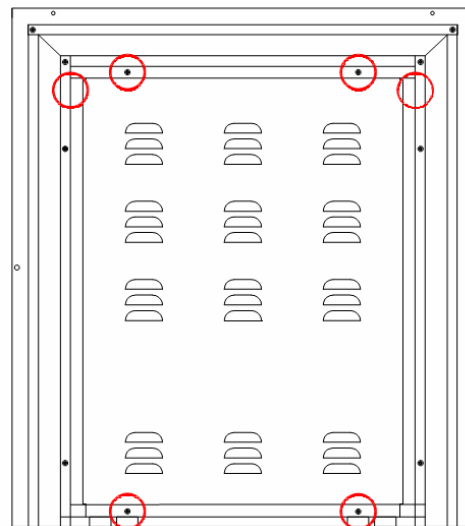

Figure 6
2. Remove the back cover by removing 6 screws in the back.(See Figure6)
2. Remove the back cover by removing 6 screws in the back.(see Figure6)